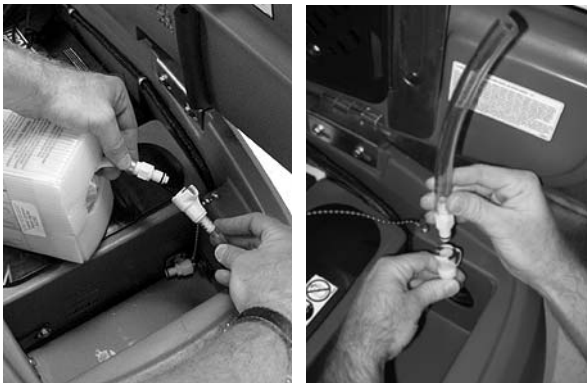

FIG. 76
1. Remove the FaST-PAK carton and connect the valve coupling and 6 in (15 cm) hose to the FaST detergent supply hose (Figure 76).